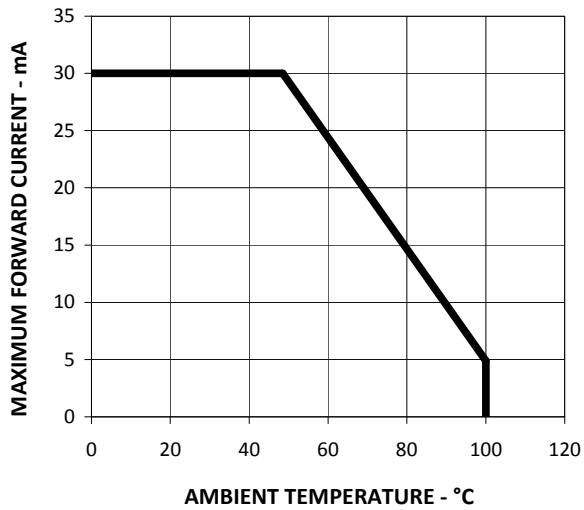

Figure 4. Maximum Forward Current Vs. Ambient Temperature. Derated Based on  $T_{JMAX} = 110^{\circ}C$ ,  $R_{\theta JA} = 500^{\circ}C/W$
1. Derate linearly as shown in Figure 4.